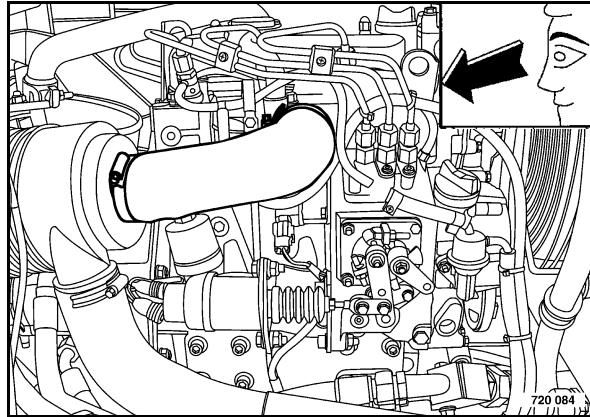

Fig. 94
- Check the fastening of the hose clamps (Fig. 94), tighten if necessary.